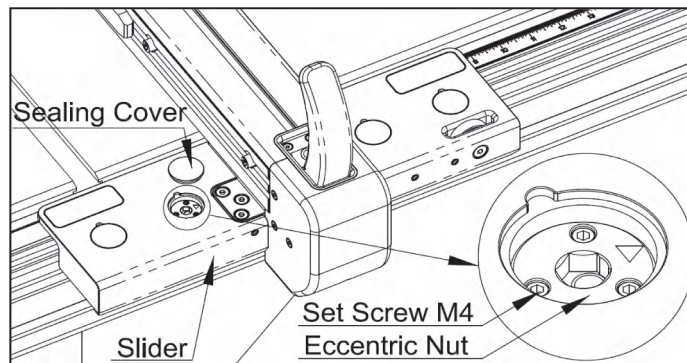

Fig. 6-22
- As shown in Fig. 6-22, remove the magnetic Sealing Cover from the slider.